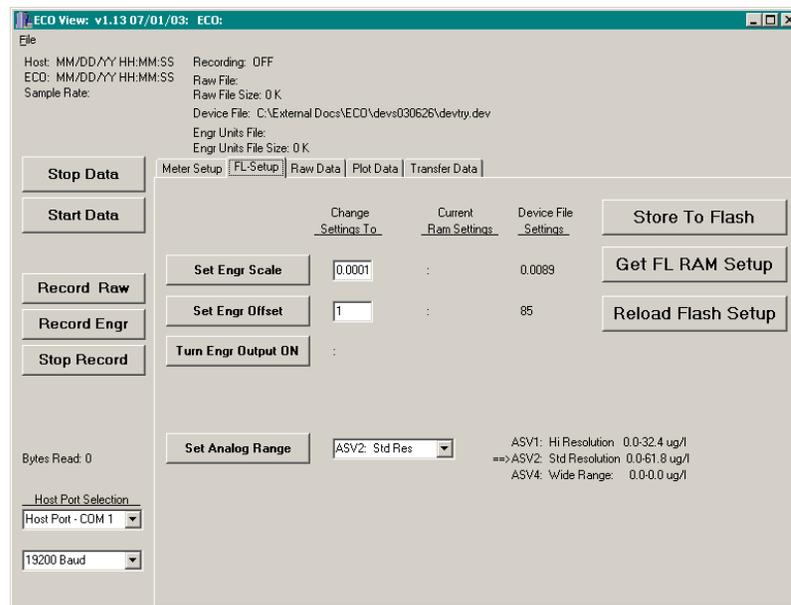

Figure 3. Fluorometer Setup tab
8. **Fluorometers only:** Once the device file is loaded, an additional fluorometer setup tab will appear (Figure 3).
1. Select **Start Data**, then go to the **Raw Data** tab to view the data (in counts) as it is received by the host program (Figure 3). Use the arrow keys or the Page Up/Page Down keys at the host computer to scroll through a file.